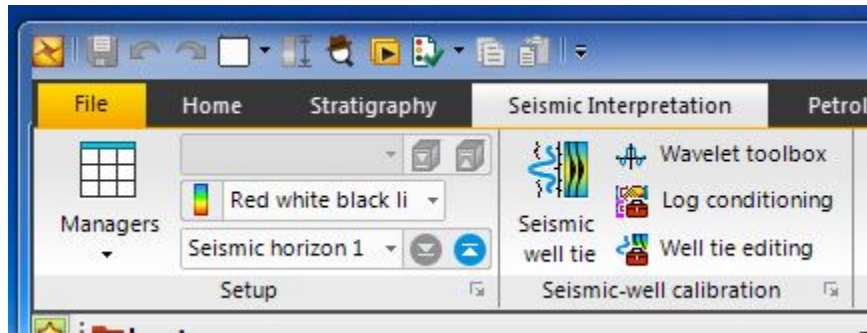

Figure 1: Petrel Seismic well tie button
1. **Create a new study.** In the Seismic interpretation toolbar tab > Seismic-well calibration group > click on the Seismic well tie button (*Figure 1*).